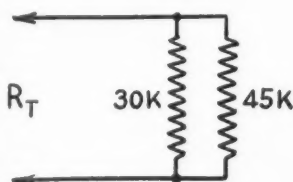

Fig. 1
1) Find the total resistance of the simple parallel combination of resistors in Fig. 1.